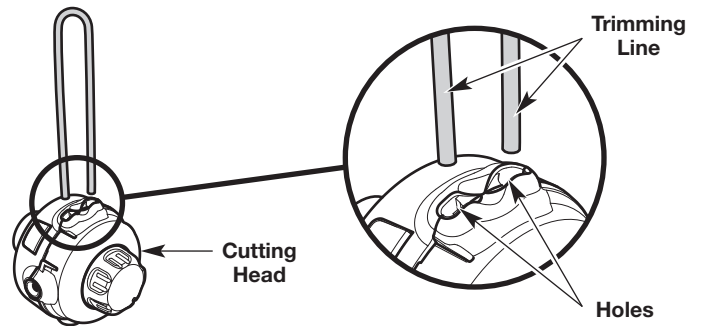
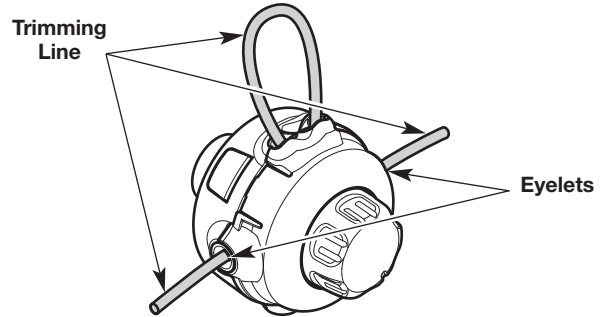

Fig. 31
Fig. 32
3. Insert the ends of the new trimming line into the holes in the cutting head (Fig. 31). Push the line through the holes until both ends protrude from the eyelets (Fig. 32).